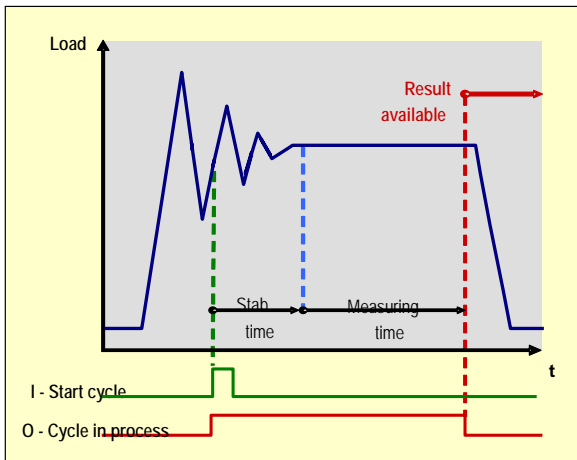

Fig. 4
- by an input assigned to 'start checkweigher cycle' (Fig. 4 & 5). Caution, only input 2 is operational if both inputs are assigned to the 'start checkweigher cycle' function.
- a time value (Fig.4).